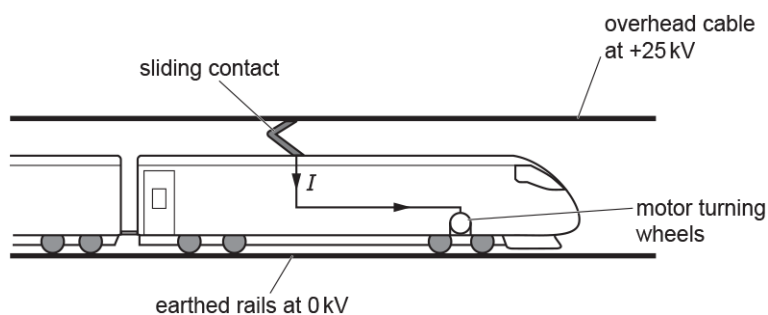

Fig. 1
51. Fig. 1 shows a high-speed electric train.
The overhead cable in **Fig. 1** must be tensioned. It is constructed from several equal lengths of wire.